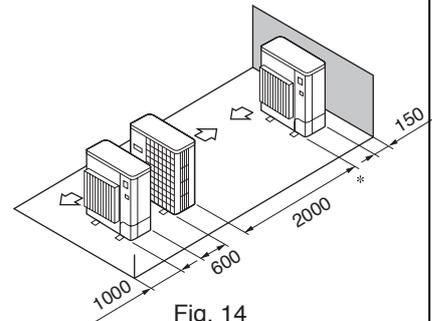

Fig. 14
(5) Single parallel unit arrangement (Fig. 14)